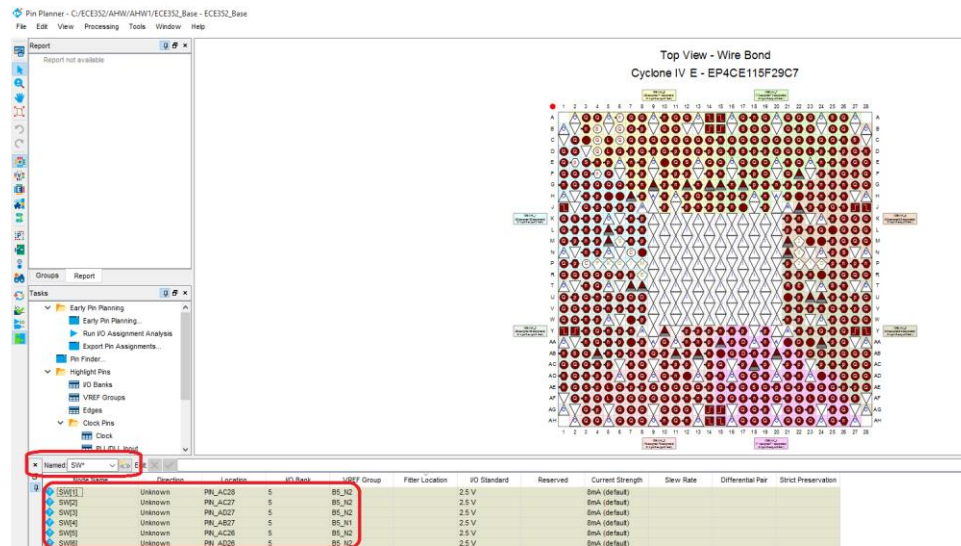

Figure 18
- 56) The default ECE352 project has predefined names for the pins connected to the push buttons, switches, and LEDs that are connected to the FPGA on the DE2-115 development board. You can view the names and pin assignments by selecting Assignments→Pin Planner. In Figure 18, a filter of “SW*” has been entered to show only the pins connected to the 18 slide switches. **Close the Pin Planner without making any modifications.**